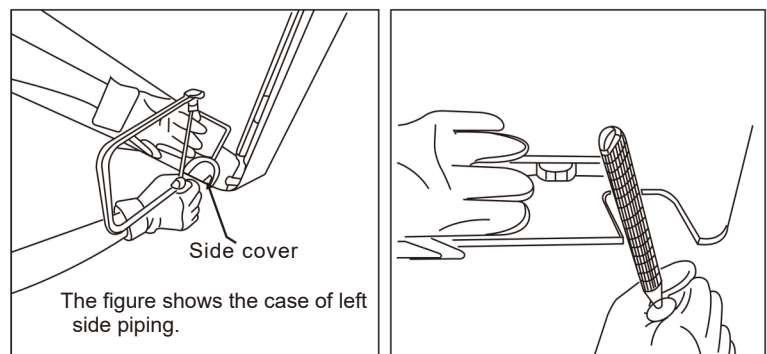

Fig 2
4. Bottom or side piping (see Fig 2)